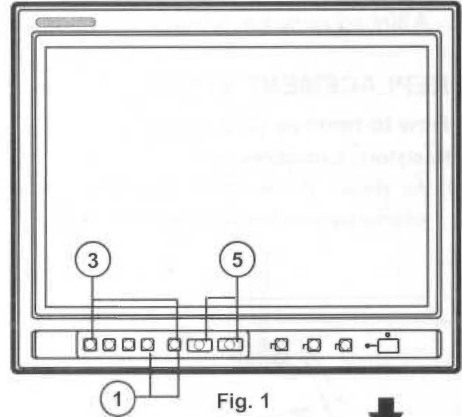

Fig. 1
- ① Press **MENU** key and **CONTRAST** key simultaneously. (Fig. 1)